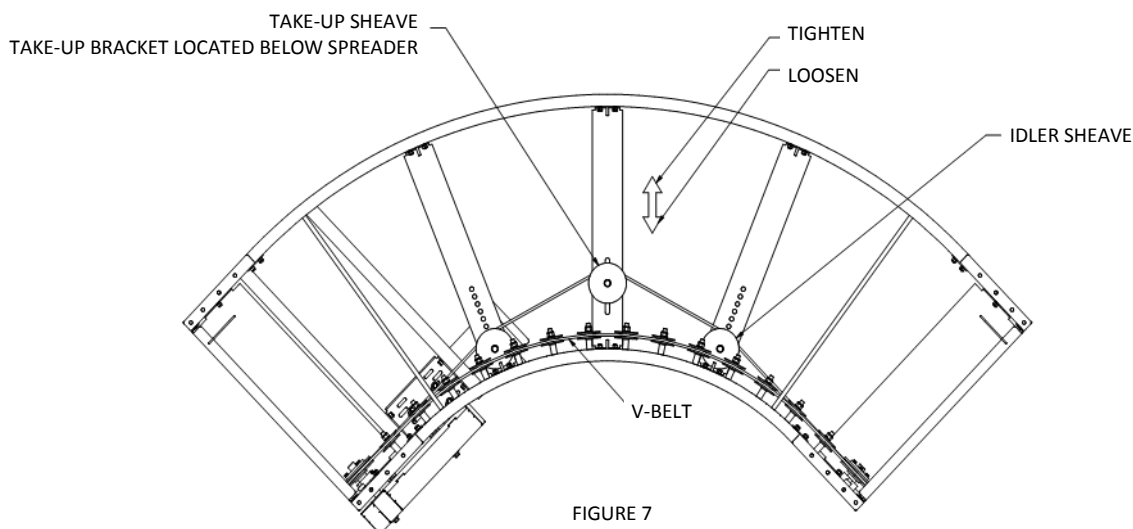

FIGURE 7
V-Belt curves have a take-up sheave located in the center of the curve that allows the belt to be tensioned. Loosen jam nuts on both ends of take-up rod and adjust sheave as shown in figure 7. If more belt take-up is required than what the take-up sheave allows, (2) idler sheaves may be moved accordingly.